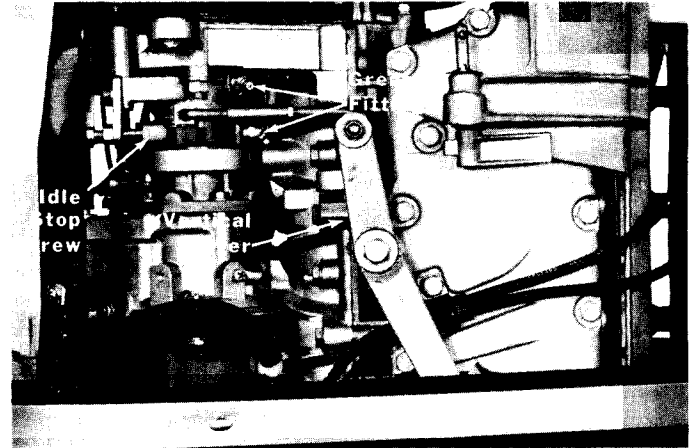

Figure 9. Magneto Against Idle Stop Screw
10. Position vertical lever so that magneto is held lightly against idle stop screw. (Figure 9) Secure brass barrel with anchor pin. If necessary, readjust brass barrel for correct position and to compensate for cable backlash.
11. Move single lever remote control handle to forward position and then back to neutral position. Check that magneto is held lightly against idle stop screw (Figure 9) when control handle is in neutral position.